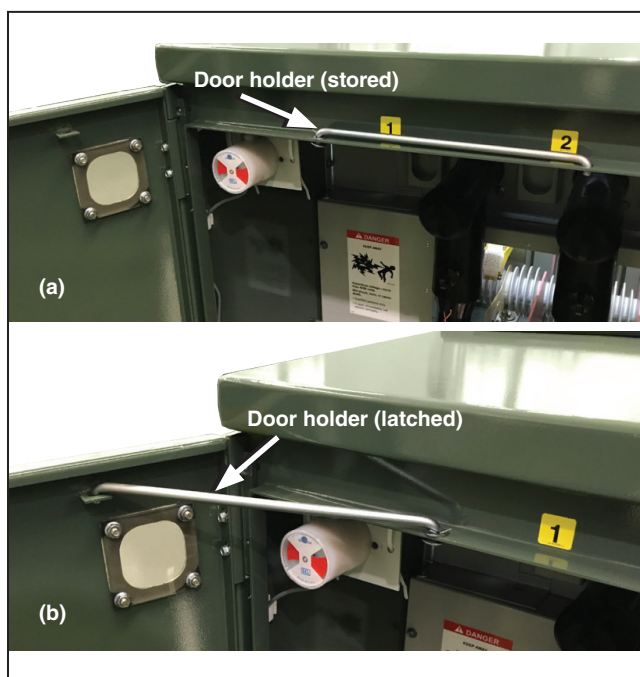

Figure 3. Using the door holder to hold the door open.
**STEP 2.** Pull the door open and secure it with the door holder. See Figure 3.